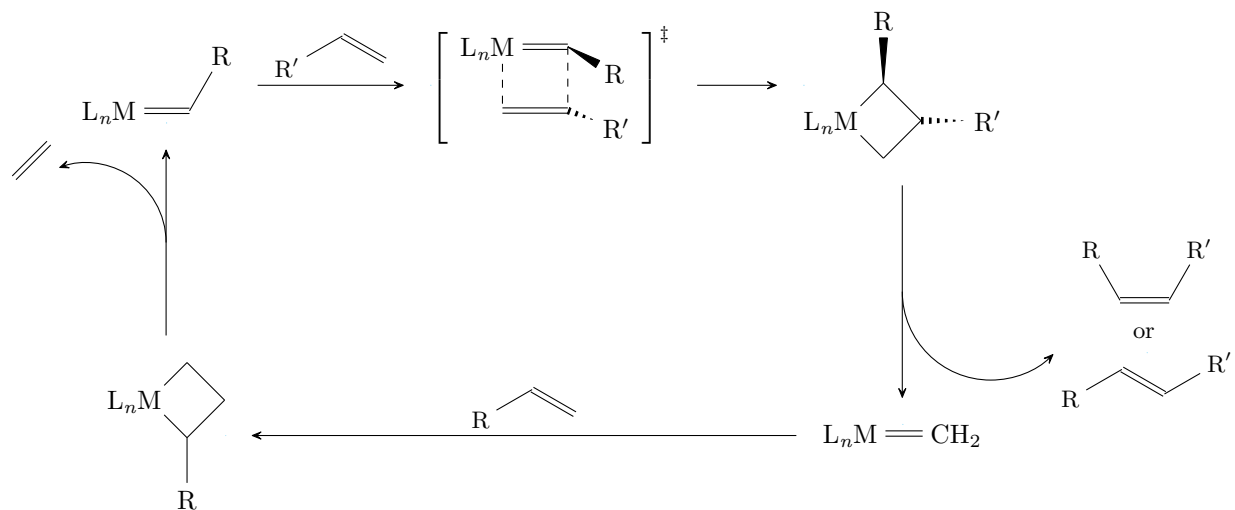

Figure 3.17: Olefin metathesis mechanism.
- Every step is an equilibrium reaction, but Figure 3.17 has monodirectional arrows for simplicity.
- Note that the mechanism drawn in Figure 3.17 is technically that of cross metathesis.
- A statistical mixture of CR_2 fragments is observed; this is only possible with the mechanism in Figure 3.17.
- In Figure 3.18a, a tungsten alkylidyne reacts with an alkyne to generate an isolable metallacyclobutadiene in a pathway quite similar to Figure 3.17.